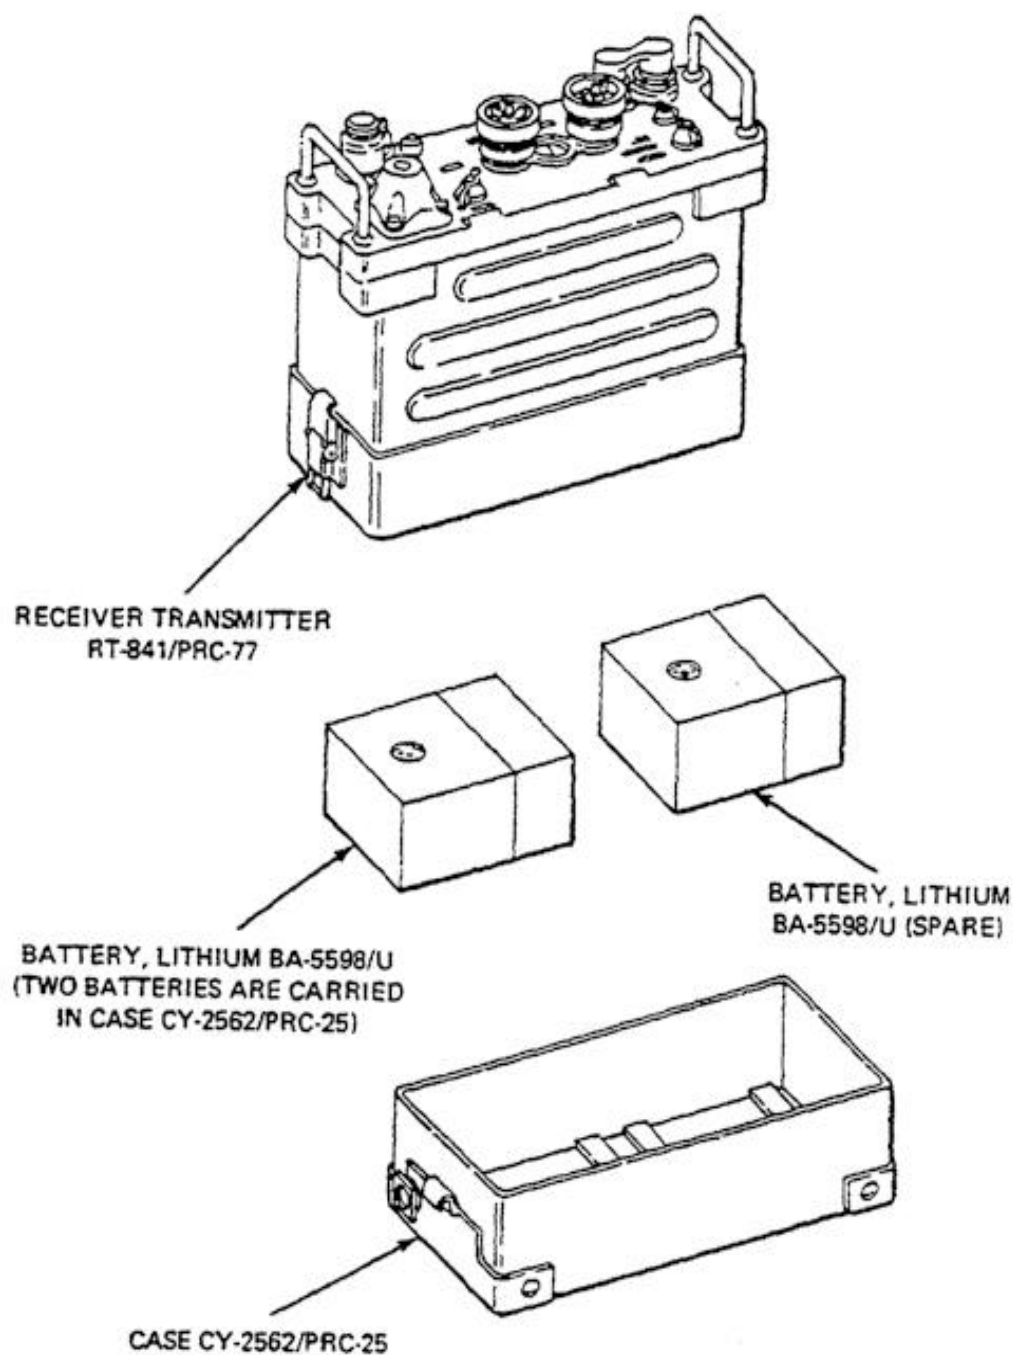

Figure D-9. Installation of Battery, Lithium BA-5598/U
**D-18. Installation and Removal of Battery (Figure D-9 and D-10).**